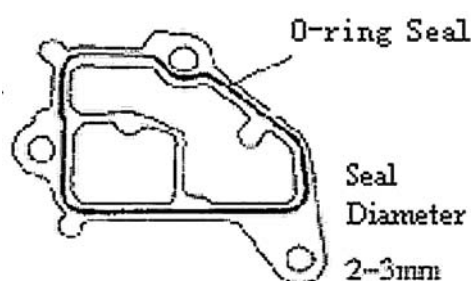

Figure 31
51. Install water inlet hose housing. See (Figure 31, 32)